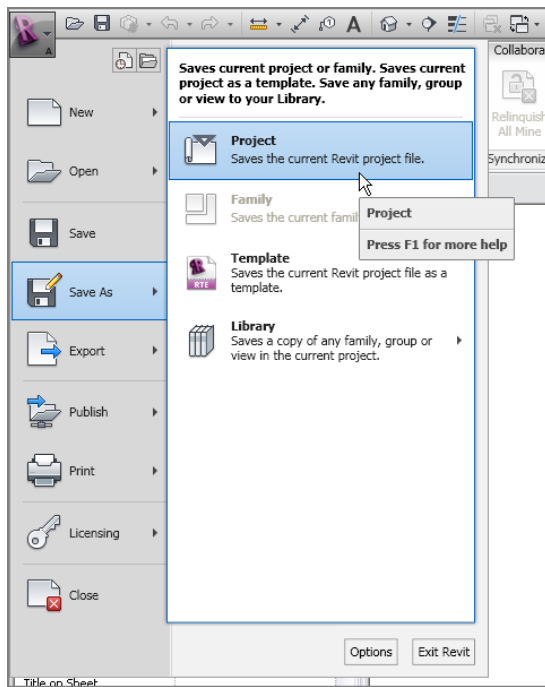

FIGURE 22.5: Saving the project using Save As
1. Click the Application button, and choose Save As ➤ Project, as shown in Figure 22.5.